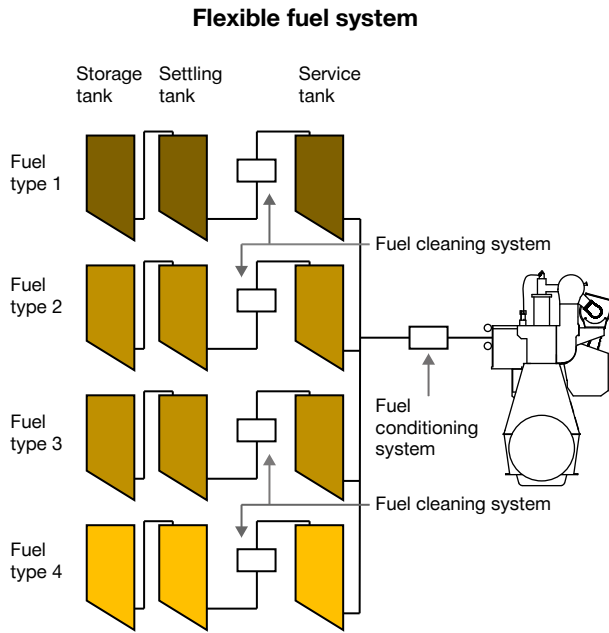

Figure 1: Schematic of a flexible fuel system
1. Flexible fuel system with separate fuel lines (Fig. 1). This system makes it easier to handle and change between different fuel types that might be incompatible, as each fuel tank can be emptied before a new batch is introduced.